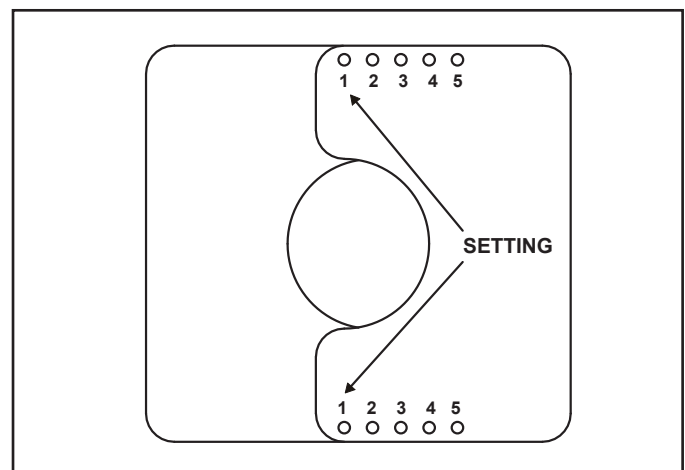

Figure 4.8 Setting the Exhaust Restrictor for MEZZO1300-AUB, MEZZO1300ST-AUB, MEZZO1600-AUB
2. The setting for MEZZO1300-AUB, MEZZO1300ST-AUB and MEZZO1600-AUB is 1-1. Align the holes marked "1" on the numbered exhaust restrictor piece with the hole on the other exhaust restrictor piece. See Figure 4.8. Center the exhaust restrictor on the vent and secure in place with two 1/2 in. (13 mm) self-piercing screws.